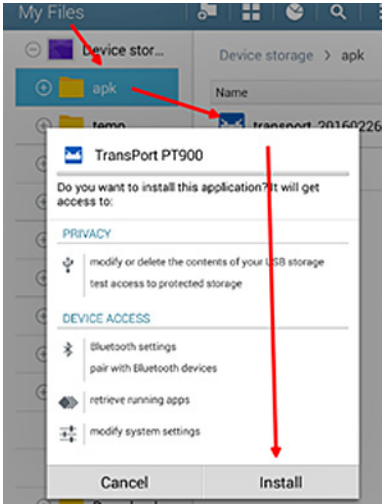

Figure 5: Initial Installation Screen
3. Click on the APK file, and the Android operating system will verify the checksum and signature for the file. Depending on whether this is an initial installation or an update installation, you will see a screen similar to Figure 5 below. Click "Install" to begin the installation.